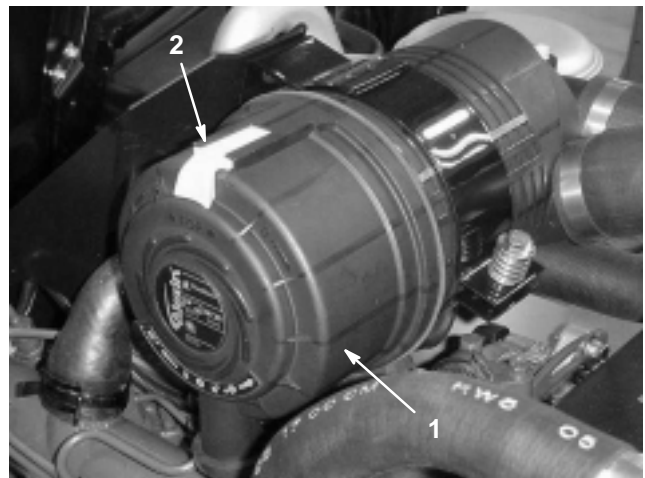

Figure 40
1. Release the latches securing the air cleaner cover to the air cleaner body (Fig. 40). Separate the cover from the body. Clean the inside of the air cleaner cover.